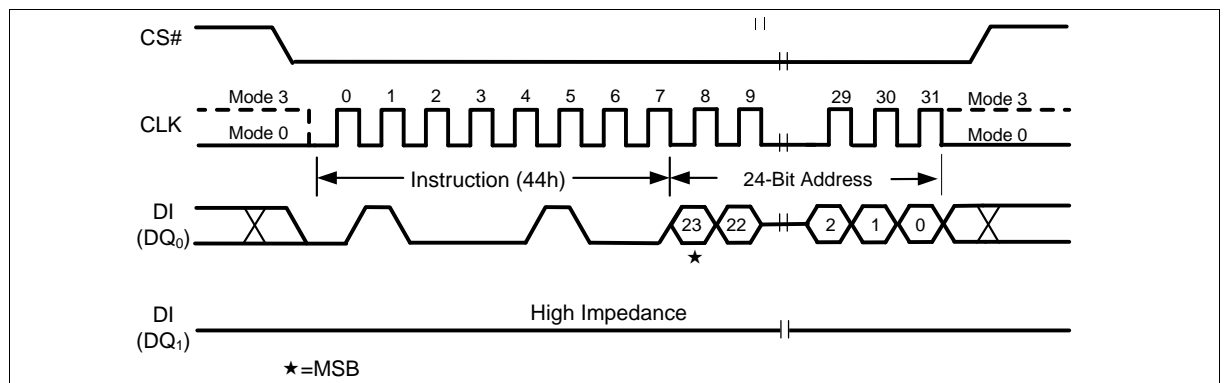

Figure 64 Erase Security Sector Instruction (SPI Mode only)
The Erase Security Sector instruction sequence is shown in Figure 64. The CS# pin must be driven high after the eighth bit of the last byte has been latched. If this is not done the instruction will not be executed. After CS# is driven high, the self-timed Erase Security Sector operation will commence for a time duration of t_{SE} (See “11.6_AC Electrical Characteristics”). While the Erase Security Sector cycle is in progress, the Read Status Register instruction may still be accessed for checking the status of the WIP bit. The WIP bit is a 1 during the erase cycle and becomes a 0 when the cycle is finished and the device is ready to accept other instructions again. After the Erase Security Sector cycle has finished the Write Enable Latch (WEL) bit in the Status Register is cleared to 0. The Security Sector Lock Bit (LB) in the Status Register-2 can be used to OTP protect the Security Sector. Once a lock bit is set to 1, the Security Sector will be permanently locked and Erase Security Sector instruction will be ignored.